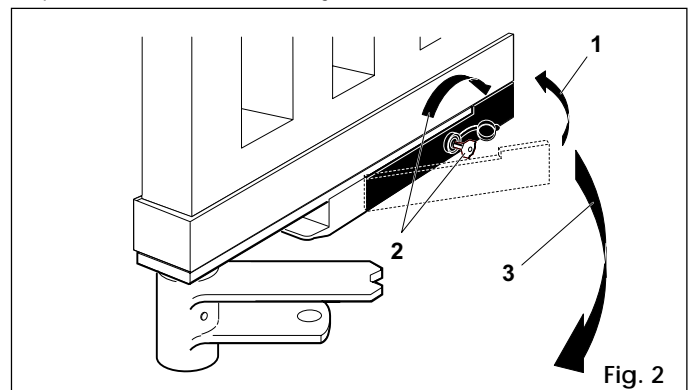

Fig. 2
- push the lever back into its home position (fig. 2-ref. 1);
- insert the release key in the lock and turn it in the direction opposite the post, as far as it will go (fig. 2-ref. 2);
- operate the leaf manually until the lock is engaged in the locking bracket (fig. 2-ref. 3);